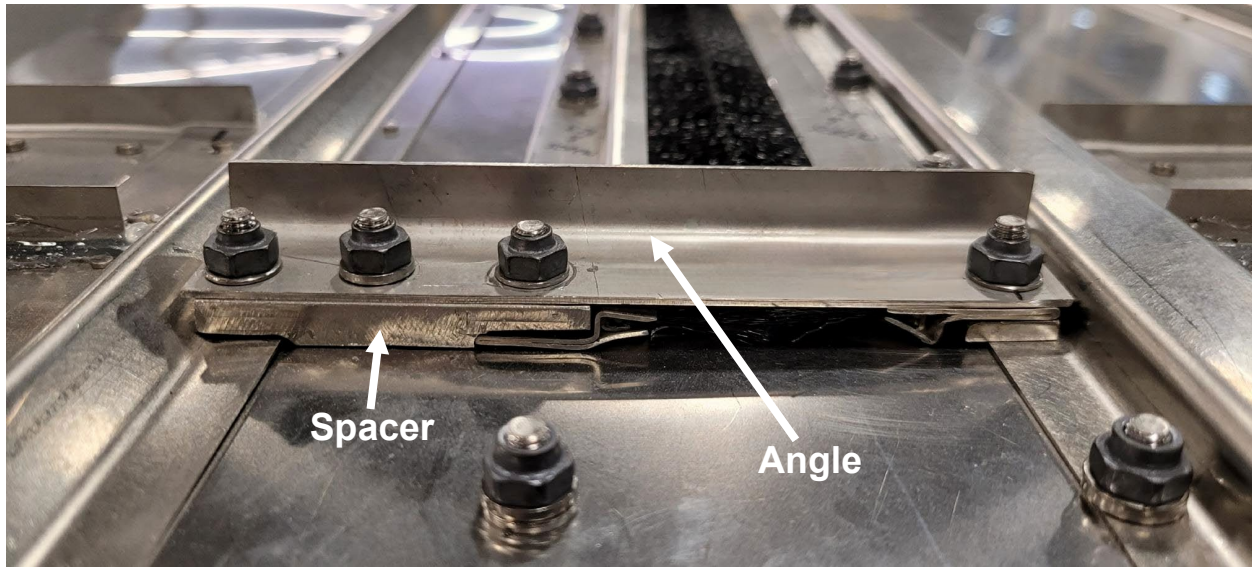

Figure 9-2.2c
- **NOTE:** Reference Figures 9-2.2c & 9-2.2d to see complete install.